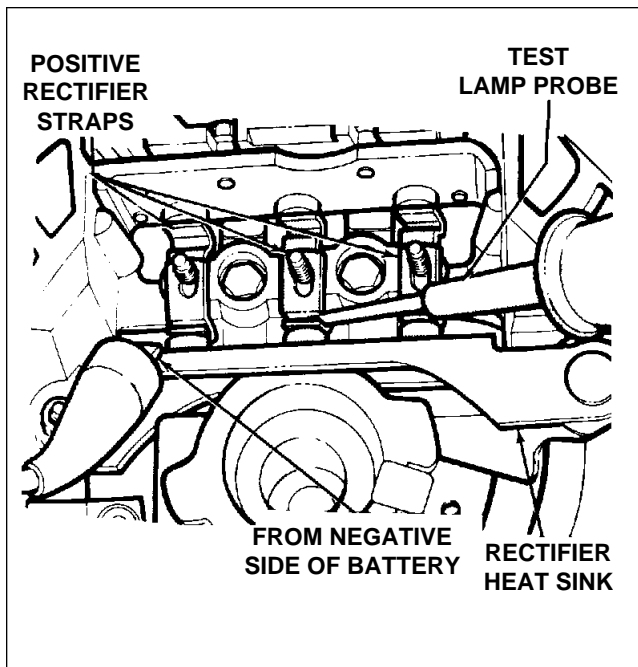

Figure 24-22. Testing Chrysler Alternators
c. Testing Of Rectifier Assemblies Using Test Lamp (Refer to Figures 24-22 and 24-23.)
- (1) Remove nuts from terminal block studs holding stator windings and positive and negative rectifier straps.
- (2) Lift off stator winding terminals and carefully pry stator assembly from end shield.
- (3) Test rectifiers with 12-volt battery and a test lamp equipped with a no. 67 bulb.
- (4) Place one test probe on rectifier heat sink and the other test probe on strap on top of rectifier. Note whether or not test lamp lights. Repeat test for each rectifier.